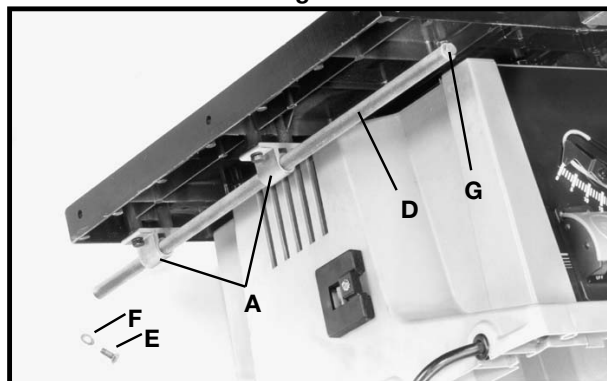

Fig. 30
2. Insert rod (D) Fig. 30, through holes in brackets (A) as shown. Then thread and tighten one 1/4-20x1/2 in. hex head screw (E) and 1/4 in. flat washer (F) into the front end of rod (D) as shown at (G). Assemble remaining rod to the opposite side of saw in the same manner.